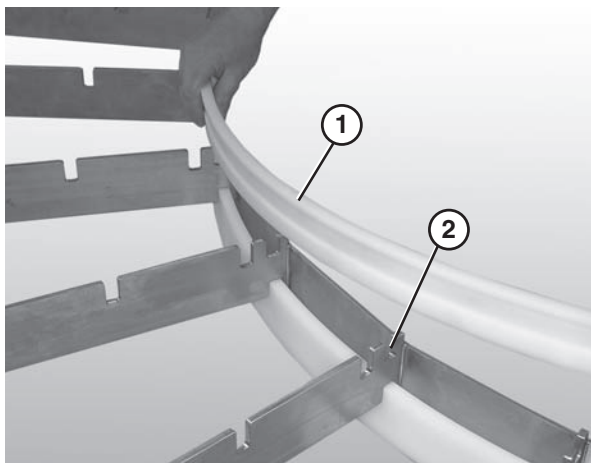

Figure 28
1. Insert the inside curve top wear strip (**Figure 28, item 1**) into the innermost slot (**Figure 28, item 2**) on the inside of the frame.